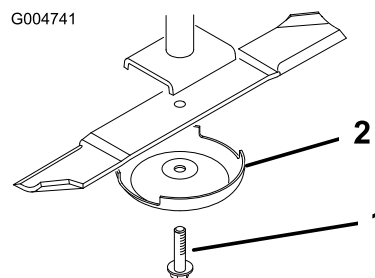

Figure 85
3. Remove the blade bolt, anti-scalp cup, and blade from the spindle shaft (Figure 85).